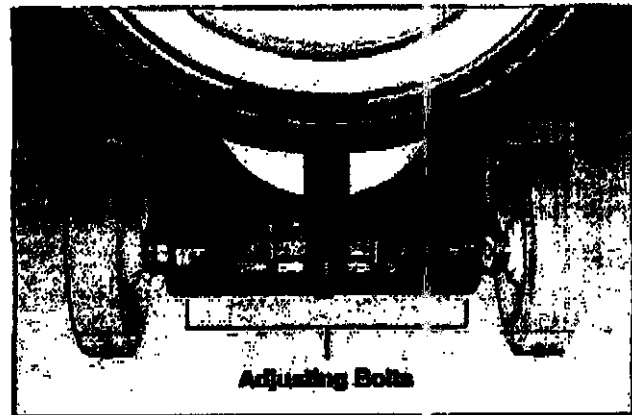

Fig. 5
1. Loosen the bolts holding the drive motor to the frame; do not remove (Fig. 5).